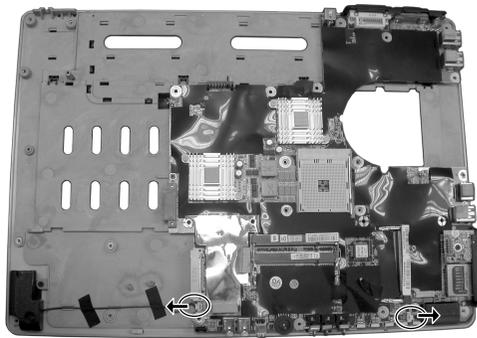

Figure 2-26 Disconnect the cables
4. Disconnect the two speakers' cables from the system board. (Figure 2-26)